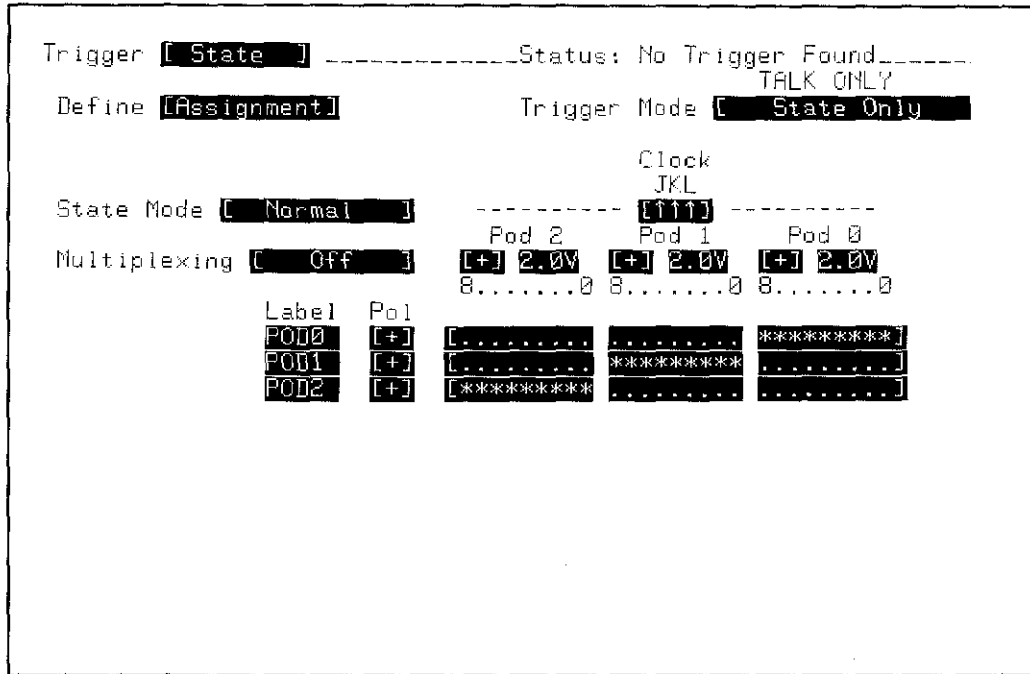

Figure 3-19. TRIGGER State / Define [Assignment] Menu
4. Configure the TRIGGER State / Define [Assignment] menu as shown in figure 3-19. Use the INSERT key to insert new line for POD1 and POD2.